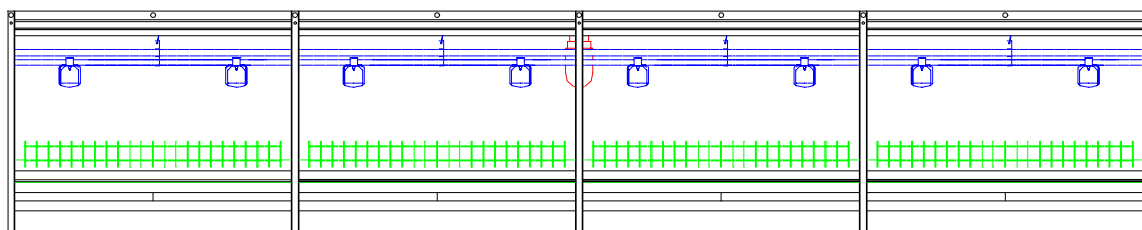
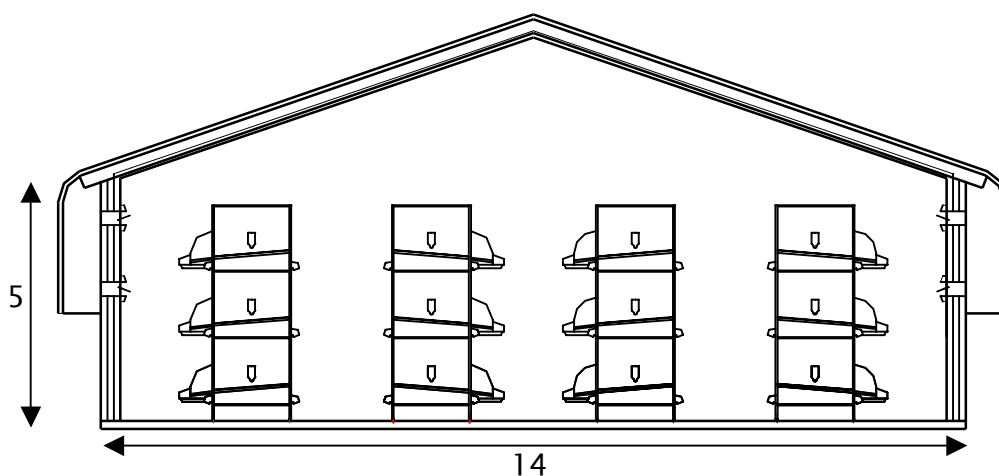

Figure 1.2 Drawing of a colony unit, with the slatted floor, feed trough, four nest boxes, and a water line.
Figure 1.3 Cross section of a possible breeder house with the Veranda system. There are four rows, each row has three levels or tiers.
The Veranda is designed for those that want to house over 10,000 female breeders. The Veranda consists of small colony-type units each containing a water line, feed trough, light, and four nest boxes (Figure 1.2). The units are placed on top of each other to form multiple levels or tiers and side by side to form rows. The system is most economically viable when at least three tiers are used (Figure 1.3). A single Veranda unit, including nest space and egg belt, measures 4,6 m long and 1,86 m wide (15,1 ft ④ 10 ft).